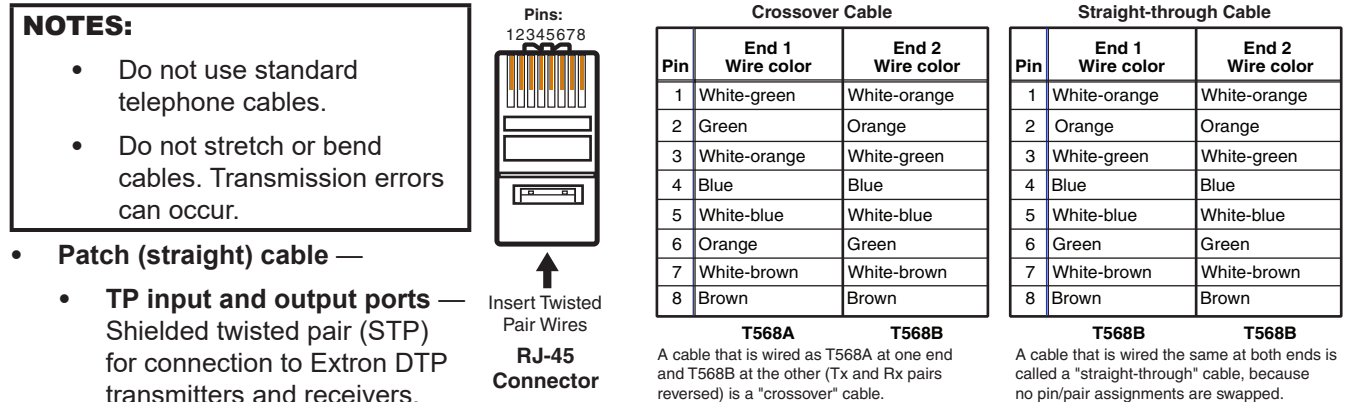

Figure 15. RJ-45 Connector and Pinout Tables
All of the RJ-45 ports; the TP input and output ports, the Expansion port, and the LAN (Ethernet) ports on the switcher or IPCP control processor use twisted pair cables. It is essential that the TP cables be the correct type and be properly terminated with the correct pinout. The TP cable can be terminated as a patch cable (straight-through) or a crossover cable (see figure 15). All these cables are terminated with RJ-45 connectors. All TP cables are limited to a length of 330 feet (100 m).
- Terminate cables with shielded connectors to the TIA/EIA-T568B standard as straight-thru (patch) cables only (see figure 15 on page 22).